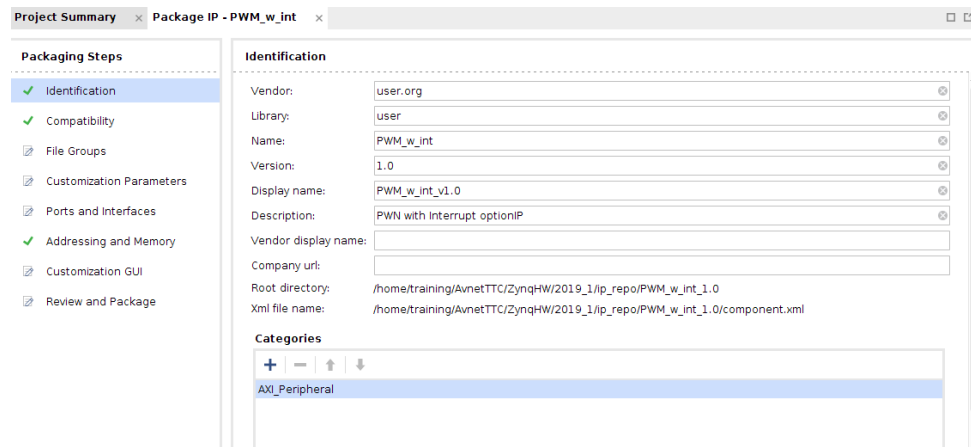

Figure 28 - IP Identification
3. Switch to the next setting, *Compatibility*. Here you can set the compatible device families. Zynq is included as that was the target part when we created this IP. More families can be added by right-clicking in the box. Change the *Life Cycle* to **Production** by **selecting** it in the field shown in figure 28.